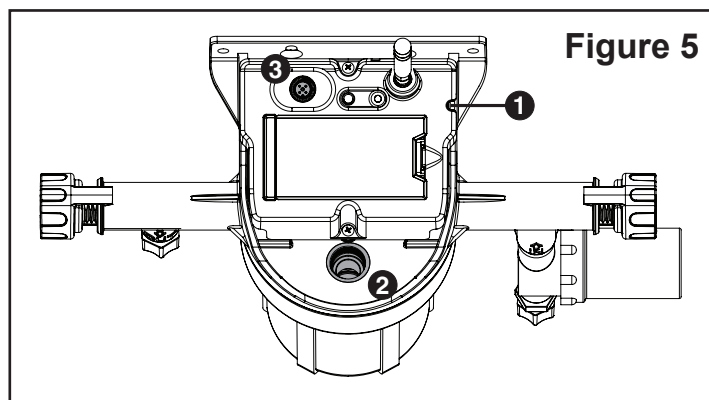

Figure 5
3. Plug the power supply cable into the *Power Terminal (1)*. See **Figure 5**.
3. Carefully insert the electrode through the top of the *Cell Reservoir (2)* and hand tighten. See **Figure 5**.
4. Connect the electrode to the *Electrode Terminal (3)*. Hand tighten at the metal chrome collar on the end of the electrode plug. See **Figure 5**.